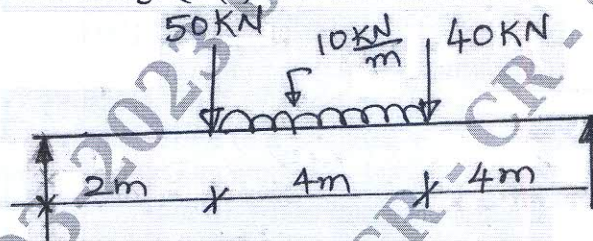

Fig. Q5 (b)
b. A beam is loaded as shown in Fig. Q5 (b). Plot SFD and BMD.